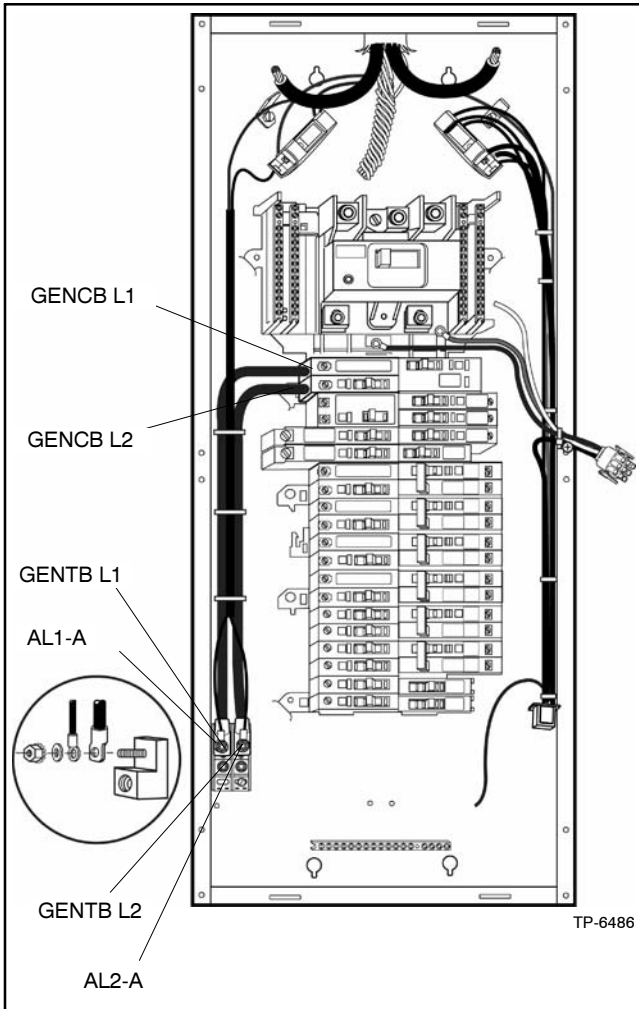

Figure 2-13 Wire Harness Routing, Type 1 Enclosures
3. Route the leads between the fuse holder and the wireway brackets. Refer to Figure 2-13 and Figure 2-14 for lead routing.
3. Mount the generator/power harness as follows. Refer to Figure 2-16 for the lead and terminal markings. Refer to Figure 2-13 or Figure 2-14 for terminal locations and hardware stacking detail. Refer to Figure 3-9 or Figure 3-10 for wiring schematics.